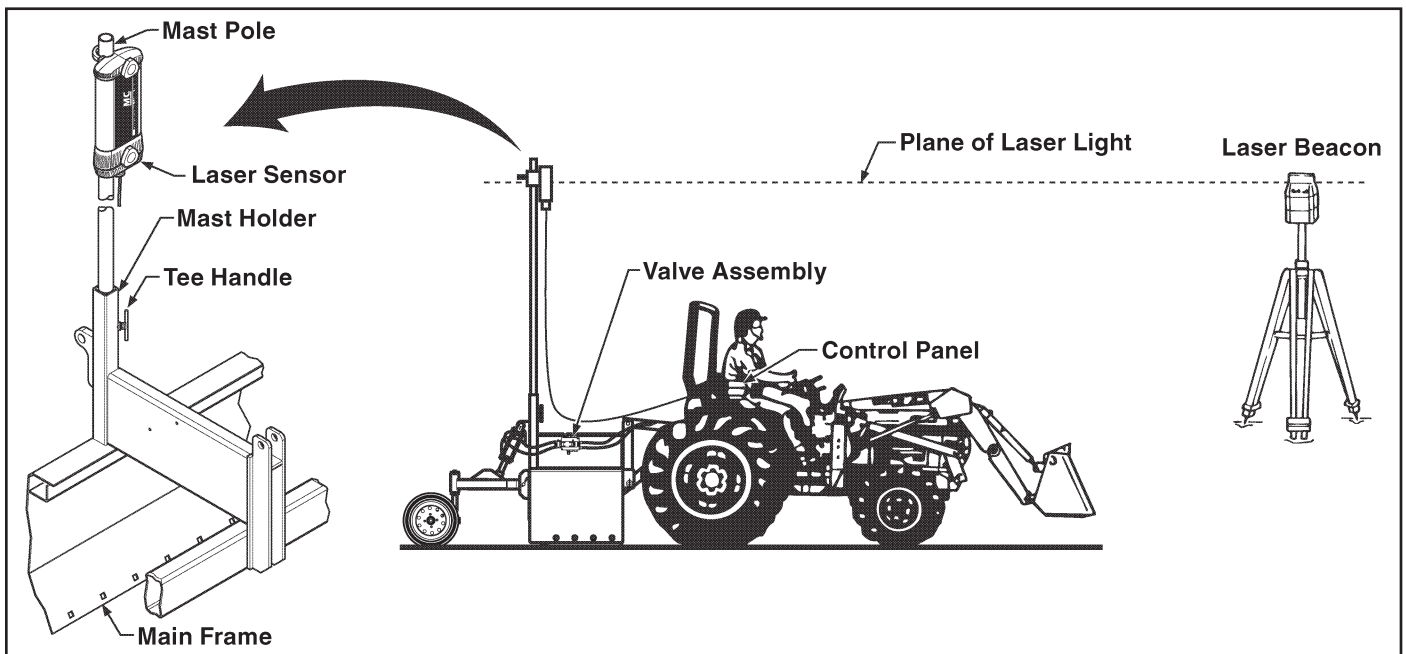

Figure 19. Components of the Automatic Control System
6. Insert the Mast Pole into the holder until it rests on the bottom of tube and tighten the tee handle to secure. Clamp the Laser Sensor near the top of the Mast so it is higher than any local obstructions including the tractor cab or fall protection devices. (Refer to Figure 19).